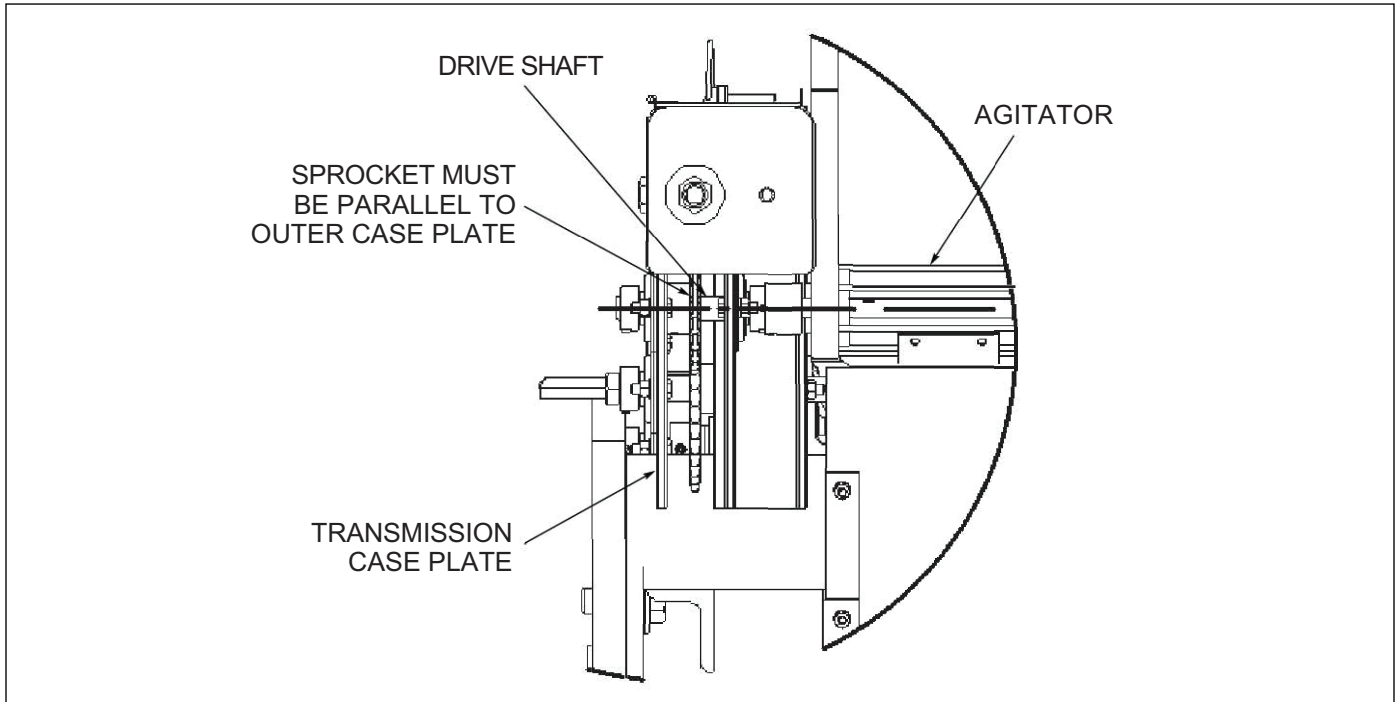

Figure 4-12: Transmission Shaft is Square in Transmission
- Check that the Transmission Shaft that drives the Brome Box is square in the transmission (sprocket must be parallel with the outer case plate) and aligned with the Brome Box Shaft. Loosen bearings and adjust if necessary. **See Figure 4-12.**